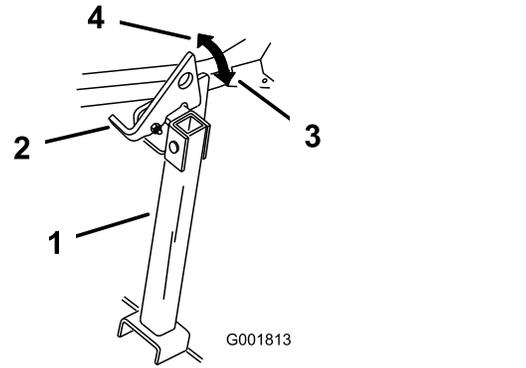

Figure 47
- Raise the latch to the unlocked position (Figure 47).